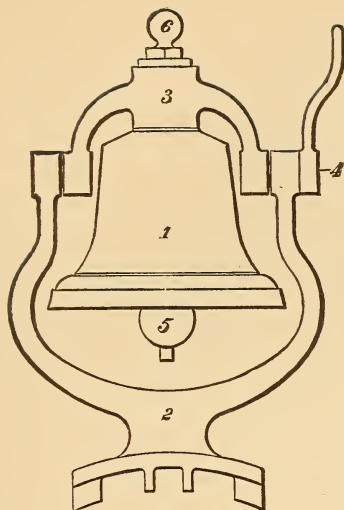
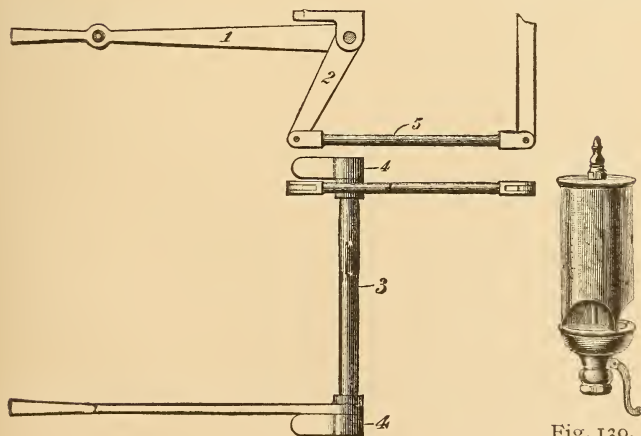

Fig. 137. Bell and Frame.
Fig. 138. Whistle Work.
A. The bell (figure 137) and the whistle (figures 138 and 139).